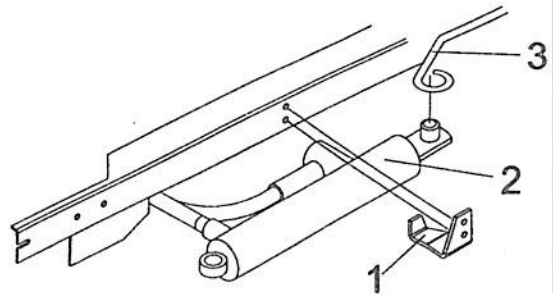
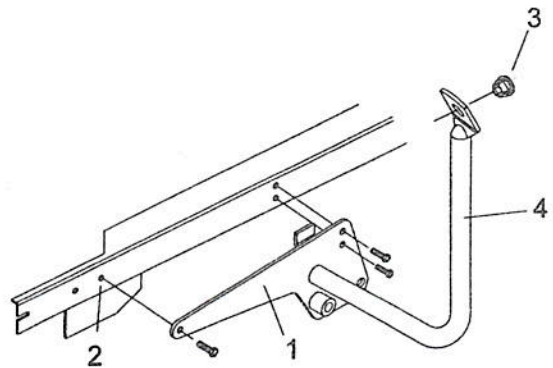

Figure 1
Figure 2
- a) If your tractor is equipped with a hydraulic lift system, remove the support that holds the hydraulic cylinder (fig. 1, item 1). The left support supplied will replace this part.
- b) Install the left support (fig. 2, item 1). Unscrew the second bolt toward the rear (item 2) and use it to secure the front portion of the support. Secure the rear portion with the bolts previously removed when the hydraulic cylinder support was removed. Make sure the cylinder's pin is well placed in the eye of the lift rod (fig. 1, item 3). Do not tighten yet.
- c) If your tractor is not equipped with hydraulic lift, secure the rear portion of the left support (fig. 2, item 1) with two 5/16 x 3/4" hex bolt.
- d) Install the plastic grommet (fig. 2, item 3) on the support (item 4) by inserting it in the hole.